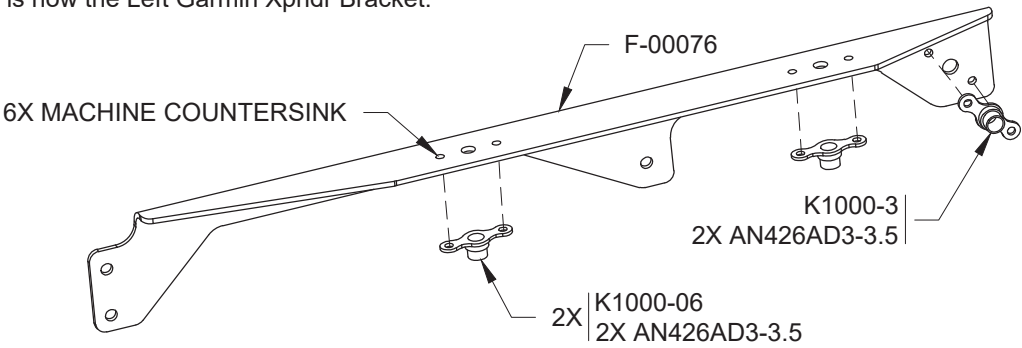

FIGURE 2: PREPARING THE LEFT GARMIN XPNDR BRACKET
Step 3: Machine countersink the nutplate rivet holes in one F-00076 Garmin Xpndr Brkt Left, then install the nutplates as shown in Figure 2. This is now the Left Garmin Xpndr Bracket.